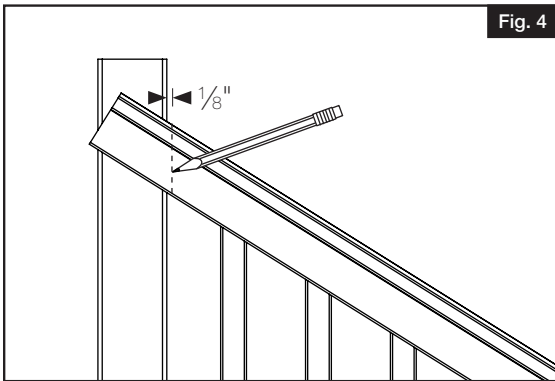

Fig. 4
- b. Trace the post onto each rail (both ends of top and bottom rails). Make four marks in total being sure to mark $\frac{1}{8}$ " shorter to allow for expansion (Fig. 4).